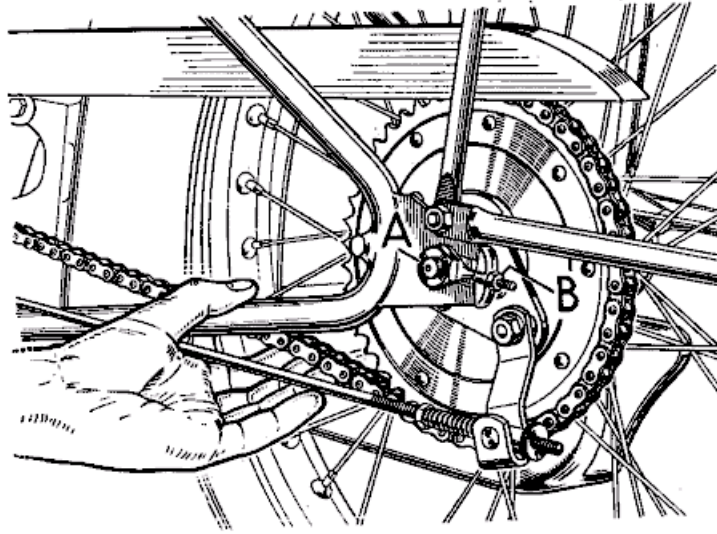

Fig. D23c.
The rear chain is adjusted by means of screw adjusters in the fork ends behind the wheel spindle. Slacken off the nuts (A) Fig. D23c, and screw the adjusters (B) in or out until the chain tension is correct with an up and down movement of three-quarters of an inch (2 cm.). Make sure that the adjustment is equal on both sides of the wheel so that the latter is in correct alignment in the frame. This can be done either by glancing along the line of both wheels when the front wheel is set straight, or by means of a long straight-edge or the edge of a plank placed along the sides of the wheels. The straight-edge should touch both walls of both tyres.